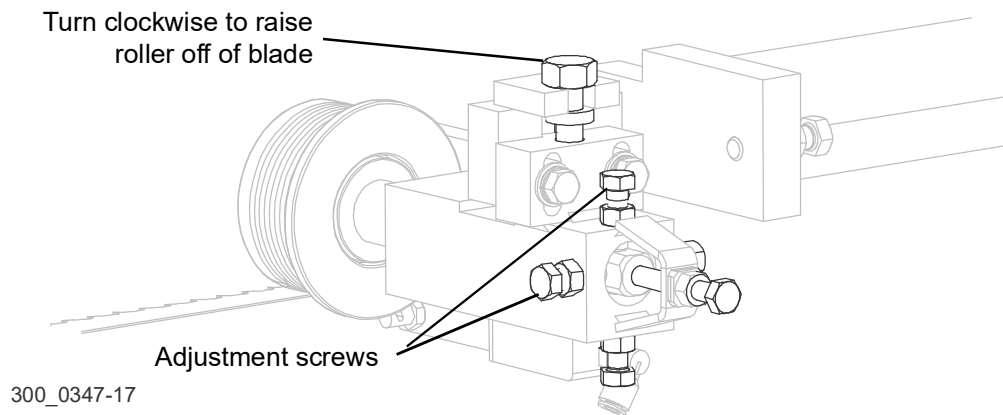

FIG. 3-32
4. Loosen the blade guide adjustment screws as necessary to move blade guide roller away from blade. See Fig. 3-32.